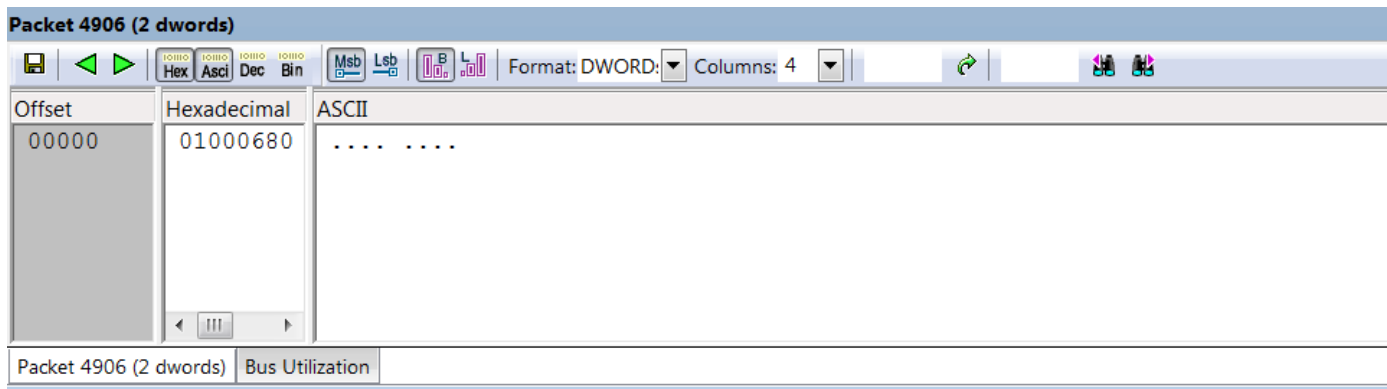

Figure 5.27: Data Block Dialog
2. Select **View Data Block** or the  **Data View** button to open the Data Block dialog box (see Figure 5.27 on page 127).